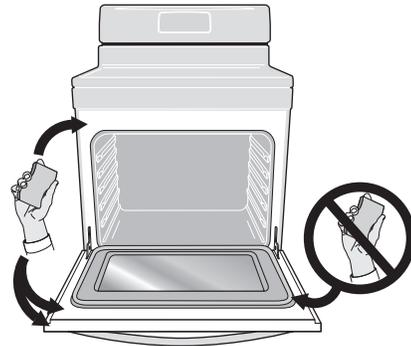

Figure 26: Do not clean the oven door gasket
13. Wipe oven cavity and bottom. Do not clean oven door gasket (Figure 26).